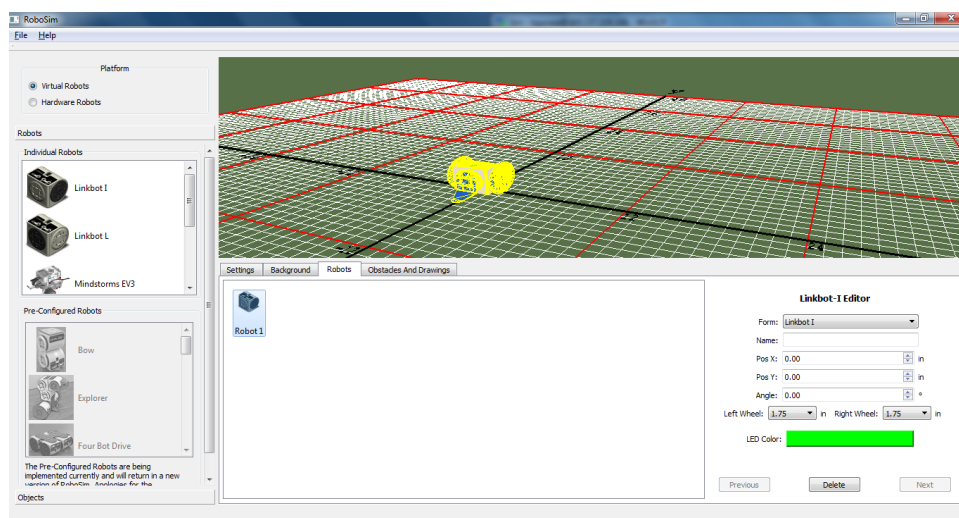

Figure 1: The RoboSim GUI.
RoboSim can be conveniently launched by double clicking its icon **RS** on the desktop. The RoboSim graphical user interface (GUI), shown in Figure 1, allows the user to change between hardware and virtual robots when a Ch robot program is executed. There is no save button within the GUI, all changes made are automatically saved. The RoboSim GUI is the place to configure the RoboSim Scene for interacting with the virtual robots. It is designed to be easy to use for configuring the Scene and the robots within it. There are four pieces of the GUI that hold four separate configurations.
**Tracing** **Tracing** where robots have been can be enabled by selecting the check box 'Enable Robot Position Tracing', as shown in Figure 1. When the tracing is enabled, lines following the robot trajectories will be drawn for each robot. Mobot tracking lines will be in a green color and Linkbot tracking lines will be in the color matching the Linkbot LED.